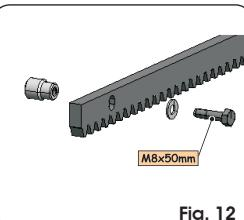
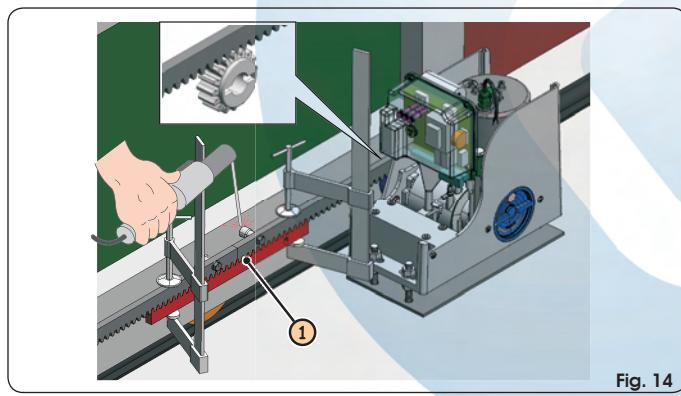

Fig. 12
Fig. 14
- Fit another rack element next to the previous one, using a piece of rack, as shown in Fig. 14 ref. ①, to synchronise the teeth of the two elements.
5.4.2. STEEL RACK TO BE SCREWED (FIG. 12)
- ① Manually move the leaf to its opening position.
- ② Rest the first section of rack on the pinion, positioning the spacer between the rack and the edge of the gate. Using a spirit level, check if the rack is horizontal and mark the perforation point with a felt-tipped pen.
- ③ Drill with a 6.5 mm diameter bit, and thread with an M8 male element. Screw the bolt.
- ④ Manually move the gate, checking if the rack is resting on the pinion and repeat the operations in point ③.
- ⑤ Fit another rack element next to the previous one, using a piece of rack, as shown in Fig. 14 ref. ①, to synchronise the teeth of the two elements.
- ⑥ Move the gate by hand and perform the securing operations as for the first element, carrying on like this until you have covered the gate completely.